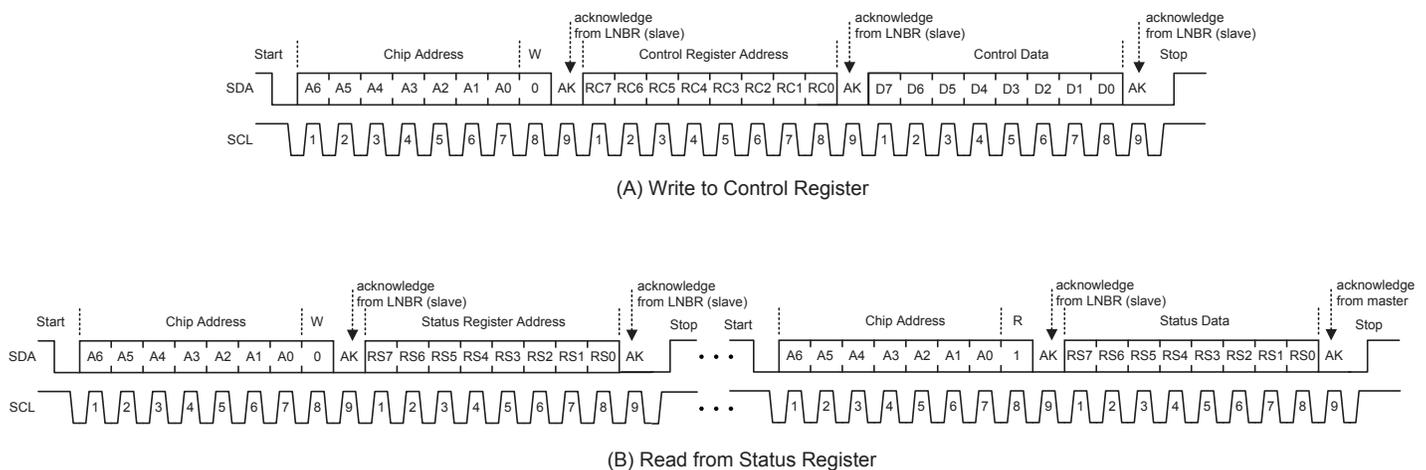

Figure 6. I2C™ Interface Read and Write Sequences. (A) for the I2C™ Write cycle and (B) for the I2C™ Read cycle.
**AK Bit During a Write Sequence.** When the master sends control data (writes) to the A8304 there are three instances where AK bits are toggled by the A8304. First, the A8304 uses the AK bit to indicate reception of a valid seven-bit chip address plus a read/write bit (R/W=0 for write). Second, the A8304 uses the AK bit to indicate reception of a valid eight-bit Control register address. Third, the A8304 uses the AK bit to indicate reception of eight bits of control data. This protocol is shown in figure 6(A).
**AK Bit During a Read Sequence.** When the master reads status data from the A8304 there are four instances where AK bits are sent—three sent by the A8304 and one sent by the master. First, the A8304 uses the AK bit to indicate reception of a valid seven-bit chip address plus a read/write bit (R/W=0 for write). Second, the A8304 uses the AK bit to indicate reception of a valid eight-bit Status register address. Third, the A8304 uses the AK bit to indicate reception of a valid seven-bit chip address plus a read/write bit (R/W=1 for read). Finally, the master uses the AK bit to indicate receiving eight bits of status data from the A8304. This protocol is shown in figure 6(B).
**I2C™ Start and Stop Conditions.** The I2C™ Start condition is defined by a negative edge on the SDA line while SCL is high. Conversely, the Stop condition is defined by a positive edge on the SDA line while SCL is high. The Start and Stop conditions are shown in figure 6. It is possible for the Start or Stop condition to occur at any time during a data transfer. If either a Start or Stop condition is encountered during a data transfer, the A8304 will respond by resetting the data transfer sequence.
**I2C™ Write Cycle Description.** Writing to the A8304 Control register requires transmission of a total of 27 bits—three 8-bit bytes of data plus an Acknowledge bit after each byte. Writing to the A8304 Control register is shown in figure 6(A). Writing to the A8304 Control register requires a chip address with R/W=0, a Control register address, and the control data, as follows:
the A8304 Status register requires a chip address with R/W=0, a Status register address, an I2C™ Stop condition, an I2C™ Start condition, a “repeated” chip address with R/W = 1, and finally the status data from the A8304. Reading from the A8304 Status register is shown in figure 6(B).